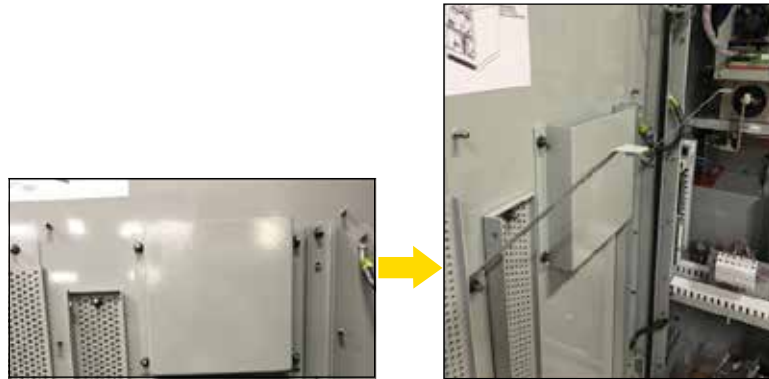

Figure 13. Location of brackets installation.
STEP 2. Bolt the brackets to the door as shown in Figure 13.